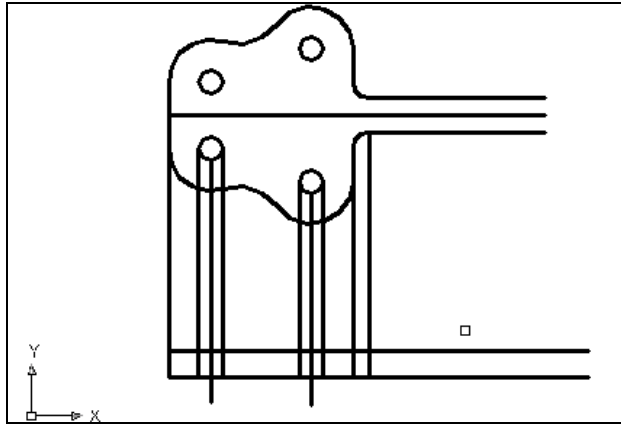

Figure 10.18 – Offset a Line 15 mm
Select the Offset tool on the Modify toolbar. On the command line, you are asked for the offset distance. Type “15” and press Enter. Pick the bottom line and offset the next line a little above the baseline. A new line will be added to the drawing 15mm above the baseline. (See Figure 10.18) We will offset another line to make the centerline of the bracket’s loop, so to stay in the command by pressing the Enter key twice. After pressing the enter key twice and typing in the next offset distance of 150, press Enter at the command line. Offset the line coming off the south quadrant of the left hole by selecting this centerline and then picking to the right of the quadrant (See Figure 10.18). This newest line in your drawing will be used as a guide to draw the two circles making up the loop of the bracket.
**\* World Class CAD Challenge 10-20 \*** - Create a New file using the Metric template, and draw the 31 entities shown in Figure 10.18 in 2 minutes 35 seconds. Continue this drill four times, each time completing the drawing under 2 minutes 35 seconds to maintain your World Class ranking.